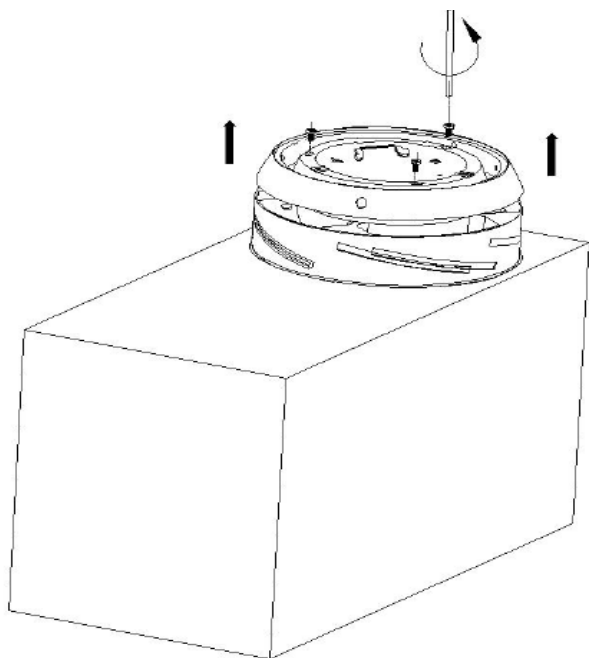

Fig. 4
NOTE: The hole in the foam packaging is designed to assist in holding the pre-assembled fan into position. Insert the canopy cover end into the hole of the foam packaging to sit the motor facing up during assembly. Fig 4.
- Remove the screws from the light plate and remove the light plate. Fig 4.